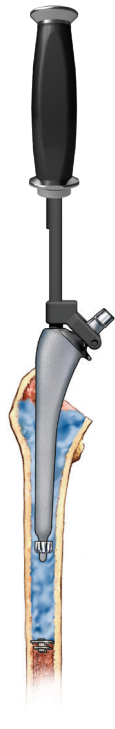

Figure 13
**Note:** Echo FX stems accept any size distal tip centralizer and may be matched to prepared canal size. The stem is inserted to a fully seated position, and extraneous cement is removed. Once cement hardening is achieved, a final trial reduction may be done (Figure 13).